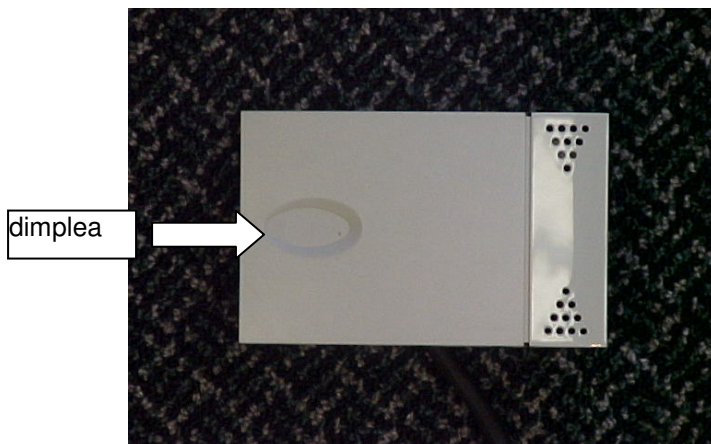

Figure 4
- a. Humidity sensor (see figure 4) must be mounted to the wall (with dimple on left hand side and holes on right hand side) using the mounting screws provided in the sensor box.